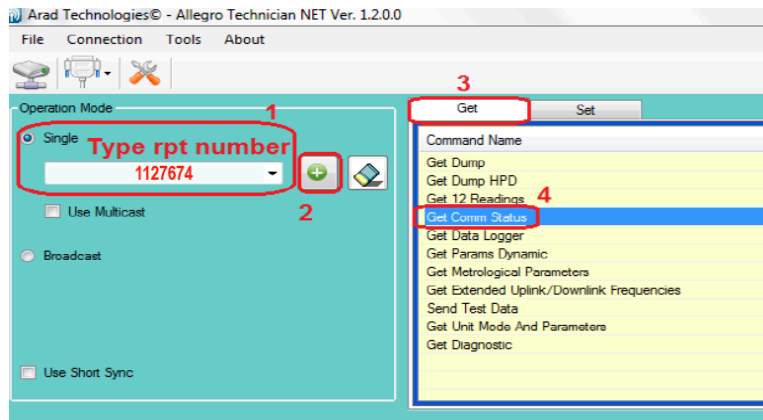

Figure 9
6. In the “**Operation Mode**” window ensure the following (see figure 9);